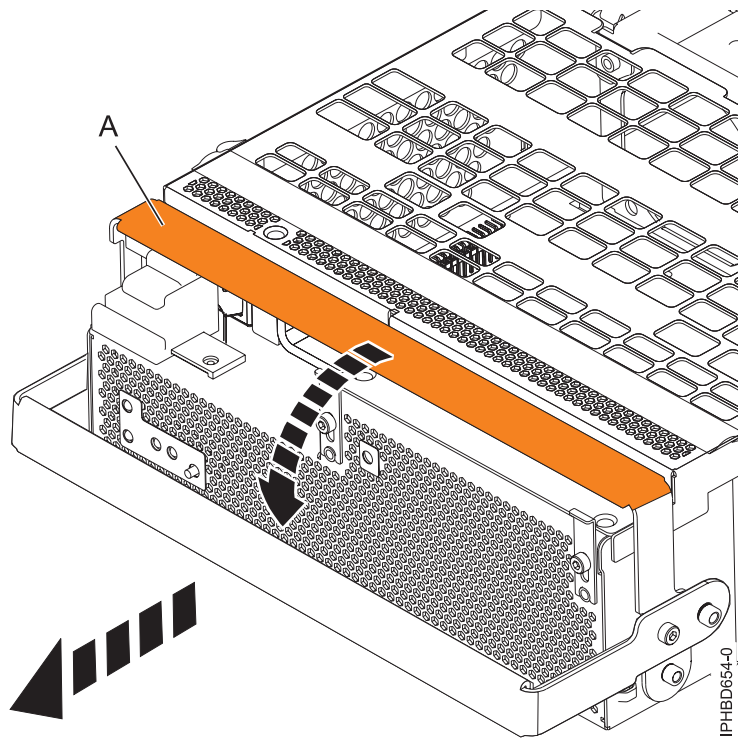

Figure 7. Removing a power supply
8. Rotate the power supply locking handle (A) to the open position, as shown in Figure 7. Pull out the power supply from the expansion unit.